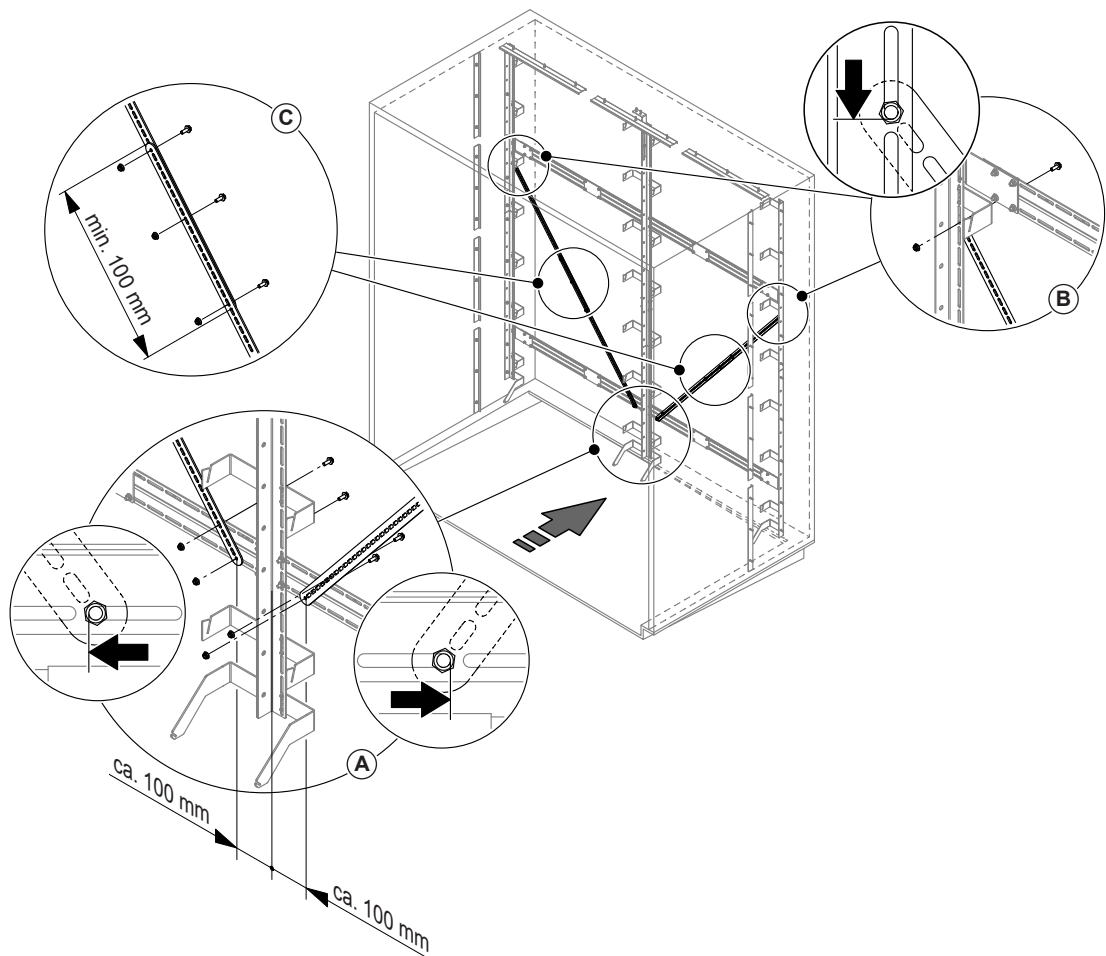

Fig. 14: Mounting the diagonal stiffeners
- First fix the lower stiffener sections from the front (view in air flow direction) with a distance of approx. 100 mm to the middle of the vertical support(s) with a screw M6 x 16 mm and nut supplied to the cross member(s) to the appropriate oblong hole in the lower row of the cross member(s) (see detail A in Fig. 14). Then, push the stiffener sections in the oblong hole of the cross member against the duct walls, respectively until it comes to a stop and slightly fasten the screw connections.
- Fix the upper stiffener sections from the back (view in air flow direction) with a screw M6 x 16 mm and a nut supplied in such a way to the lateral support or the middle vertical support (only applicable for air ducts/AHU's with a width >4500 mm) that the overlap of the upper and lower stiffener sections is at least 100 mm (see detail B and C in Fig. 14). Then, push the stiffener sections in the oblong holes downwards until it comes to a stop and slightly fasten the screw connections.
- Overlap the upper and lower stiffener sections and fix overlap with three screws M6 x 16 mm and nuts supplied (see detail C in Fig. 14).
- Finally, fix the lower stiffener sections with a second screw M6 x 16 mm and nut supplied in the upper row of oblong holes to the cross member(s) (see detail A in Fig. 14). Then, fasten all screw connections on the diagonal stiffeners.